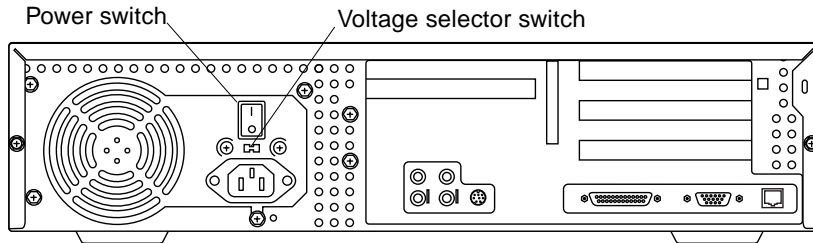

FIGURE 1-4 Ultra 5 System Power Switch
3. Set the system power switch to the off position (FIGURE 1-4).